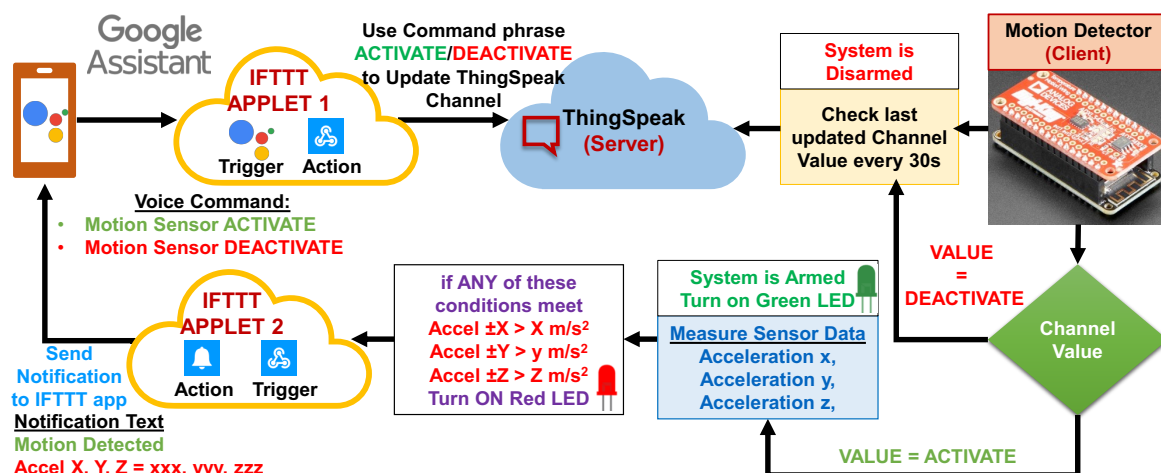

Fig 1. High level overview of Motion Detection System
One application of this system is *bag theft detection*. Consider that you have put the system inside your bag, kept the bag in a stationary place and you are going to workout/gym. You put the system in Armed state via Google Assistant voice commands, and the ESP32 starts detecting motion using the accelerometer sensor. As soon as any motion is detected, the system sends an IFTTT notification to your phone (on the IFTTT app), thereby alerting you of possible theft. On the other hand, you might want to disarm the system using Google Assistant when you are ready to take the bag yourself or when you are at home, as you might not want to receive unnecessary notifications. Fig. 1 shows a high-level overview of this system.
The purpose of the 1st applet is to arm and disarm (activate and deactivate) your motion detection system, as shown in Fig. 1. Creating an IFTTT applet is simple: You simply pick a **trigger**, or an “if this,” then pick a “then that” **action**. For the 1st applet, you should use ‘Google Assistant’ as the *trigger* and write a phrase to control your motion detection system. For example, you can use ‘**Motion sensor \$**’ as the phrase, where \$ can be either **Activate** or **Deactivate**. For the *action*, you should use ‘Webhooks’ to send data (in this case \$) to ThingSpeak channel.
5. Overall Application Workflow (Fig. 1)